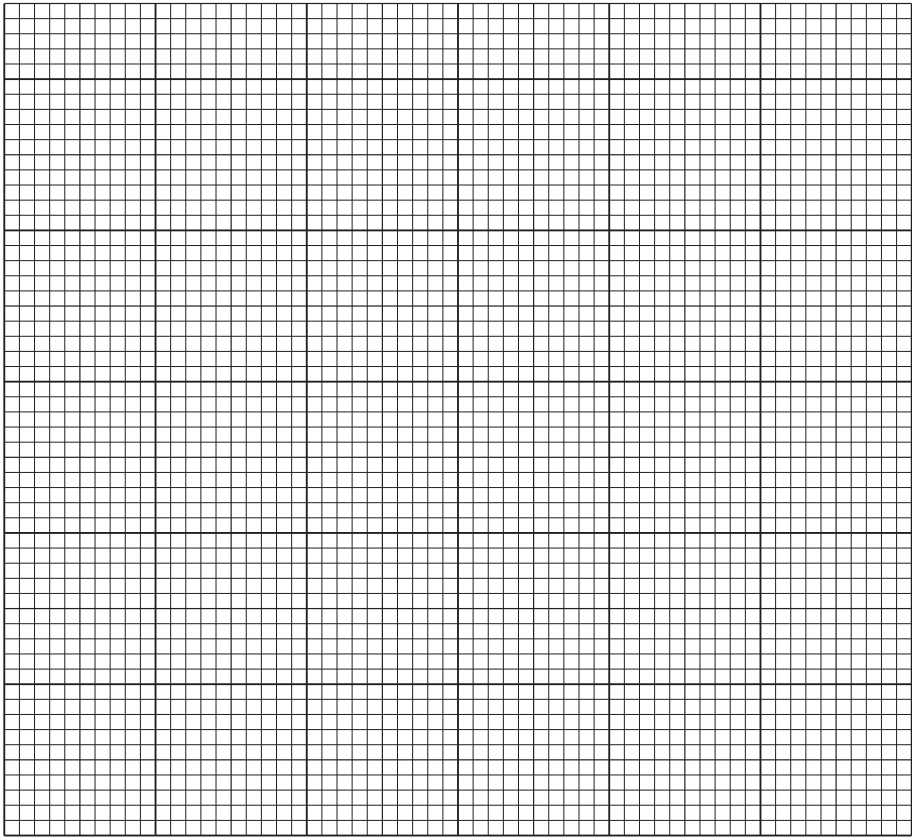

Fig. 1.3
- (i) Plot a graph of the data in Table 1.2 on the grid in Fig. 1.3.
(ii) Describe **and** explain the shape of the graph in Fig. 1.3.